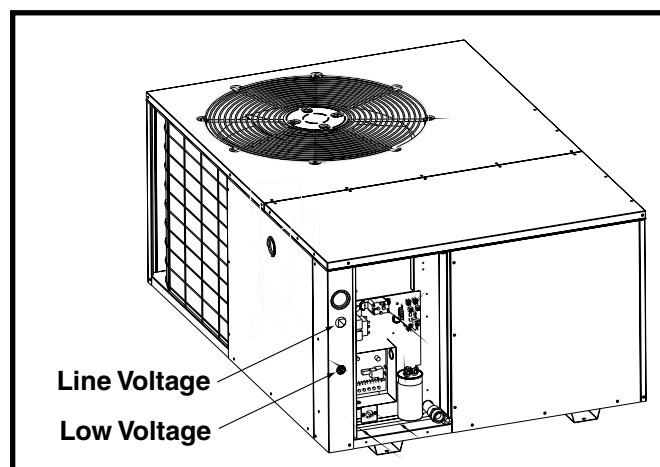

Figure 5. Power Entry
- Provide power supply for the unit in accordance with the unit wiring diagram, and the unit rating plate. Connect the line-voltage leads to the terminals on the contactor inside the control compartment. Extend leads through power wiring hole (Figure 5, page 7). Connect **L1 & L2** directly to the contactor.